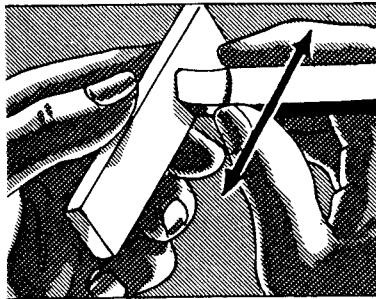
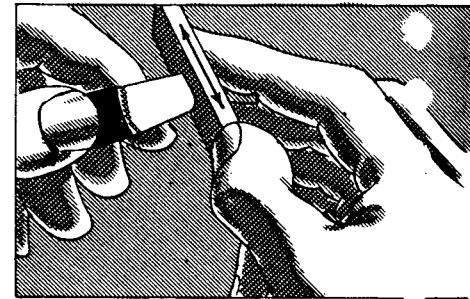

FIG. 579
FIG. 580
3. Stone the end of the tool by holding it at a slight angle to the vertical position (Fig. 579) and by rubbing it on the stone until the top edge is smooth, or hold the tool stationary and smooth the edge with the stone (Fig. 580).